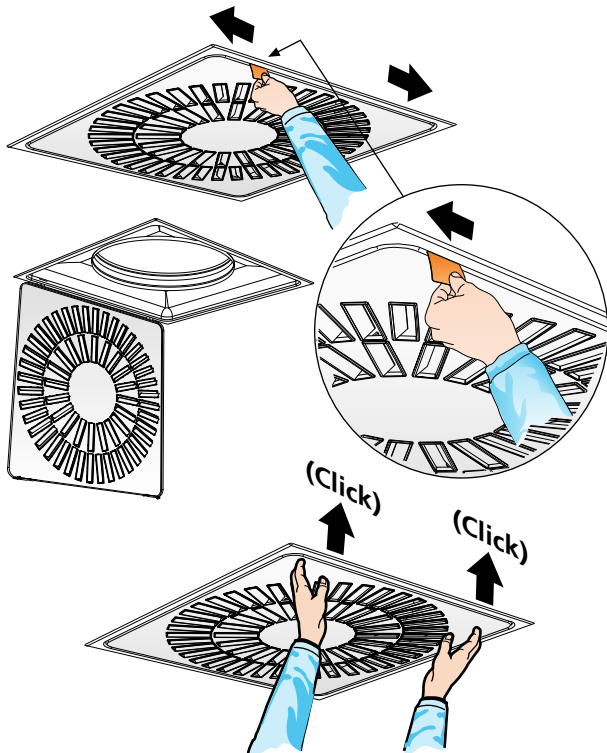

Figure 1. Quick Access.
- Quick Access system makes it easier and faster to open and close the diffuser face for installation, commissioning and cleaning, see figure 1.
- Move the card from the centre out towards the corner, see figure 1.